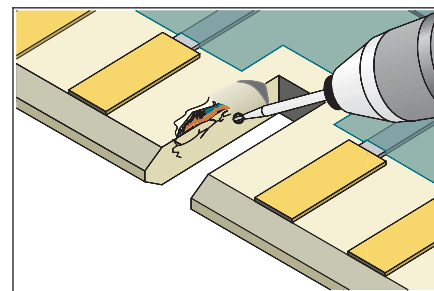

Figure 1 Mill away the damaged board base material.
2. Mill away the damaged base material using a hand held drill and ball mill. All damaged base material must be removed. No fibers of laminate material should be exposed at the surface of the keyslot. (See Figure 1.)